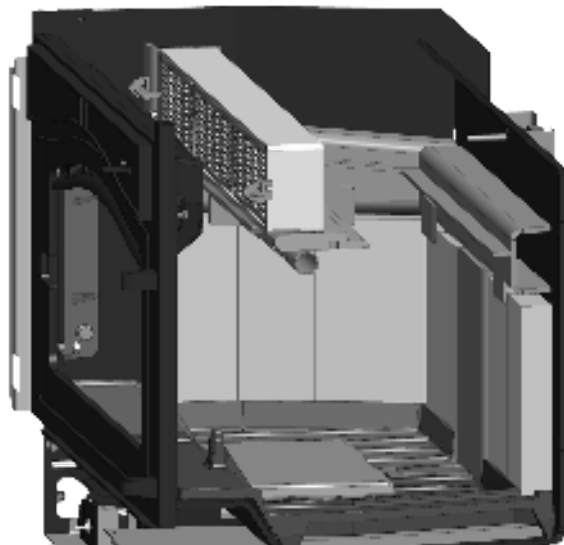

Figure 3.14. Access to flue shown.
5. Once the rear tube and baffle are removed from the firebox, then the flue is accessible to install venting adaptor or clean venting. See fig 3.14.